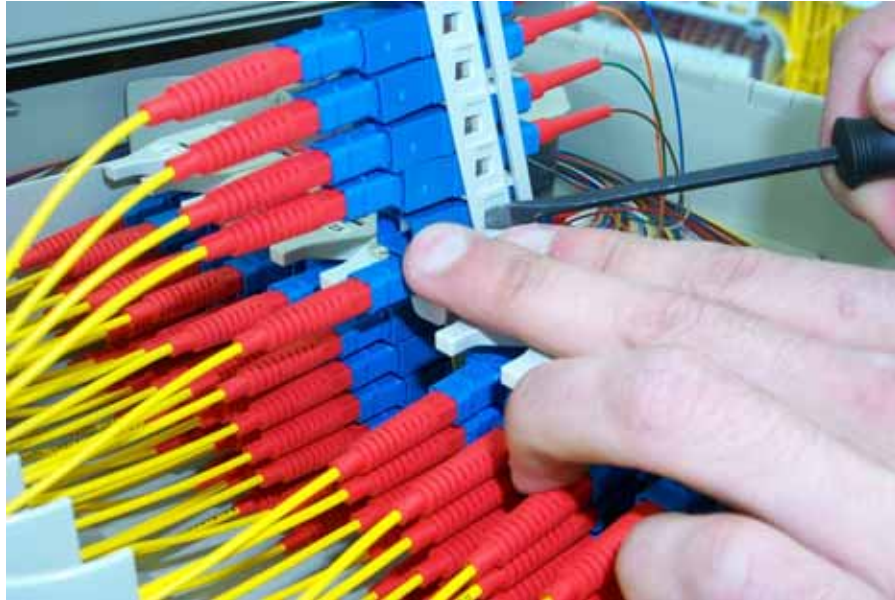

Figure 75. Pressing in Spring Clip on Adapter
- Using a small flat screwdriver, press against the adapter spring clip in the location shown in Figure 75. While pressing in the spring clip, push the adapter gently with your finger to prevent the spring clip from snapping back into position.